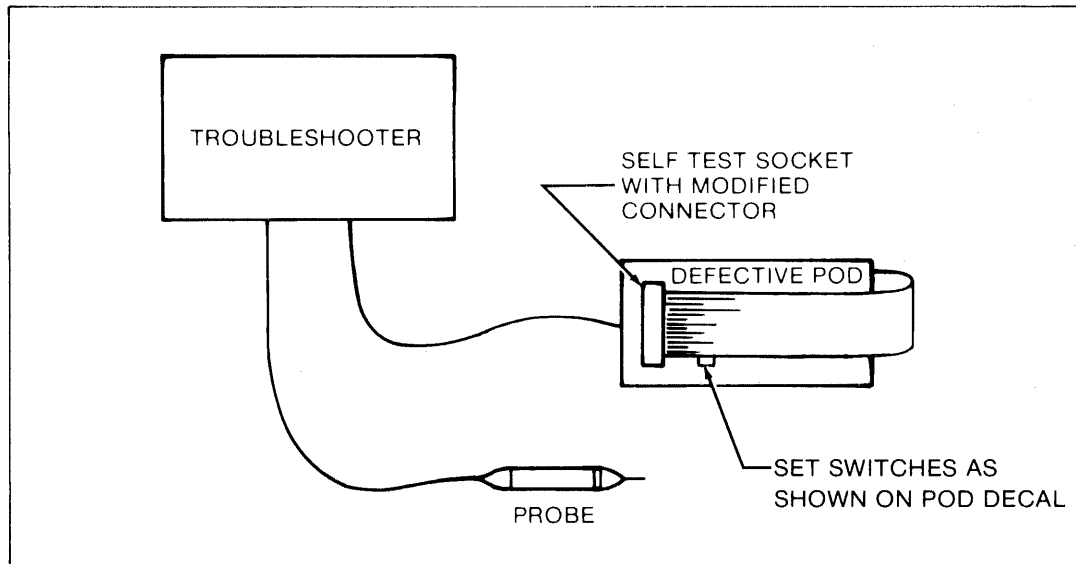

Figure 6-1. Troubleshooting a Defective Pod
5. Obtain a 40-pin IC socket. Clip off or bend out of the way pin 20 of this socket. (You may use the socket saver that is supplied with the pod; the socket saver may be pried apart so you can remove pin 20). Insert the modified socket into the pod self test socket. Insert the pod ribbon cable plug into the modified socket as shown in Figure 6-1. Turn the adjacent thumbwheel to lock the self test socket.